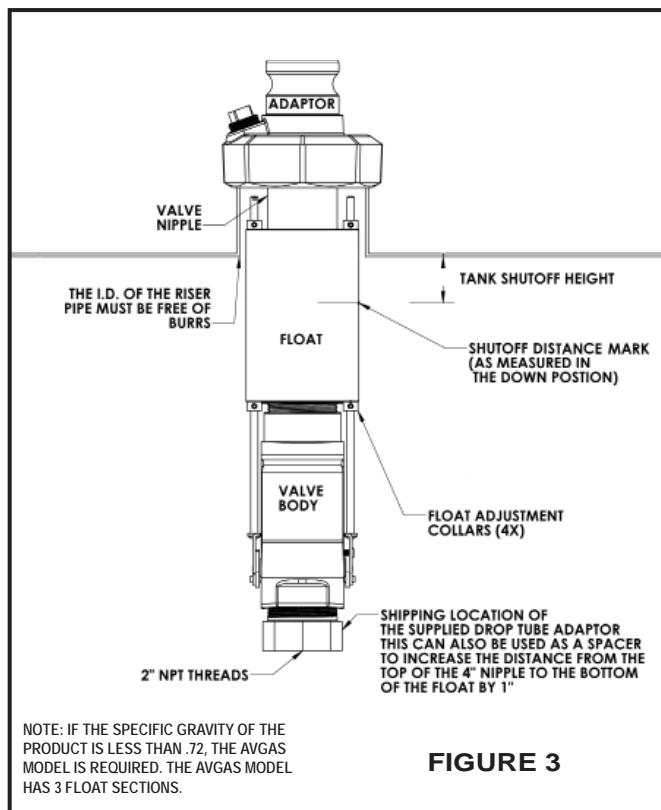

FIGURE 3
5. Move your float into the up position. Now the line that you marked on the float (Step 2) is at the point where the valve will shut off during the filling process. Measure from the line on the float all the way up to the point where the valve will thread onto the piping. We will call this Length X (See Fig. 3). Record this length.
6. Now you can make piping adjustments to insure that the line on the float will be in the tank at your desired shut off point when the unit is installed into the tank. To make these adjustments you can lengthen the Nipple shown in Fig. 3. You can also change the Riser Distance shown in Fig. 1. Lastly, you can make minor adjustments by moving the floats up or down. To do this loosen the allen screws on the float adjustment collars, shown in Fig. 3, move the floats up or down, and then tighten the allen screws.